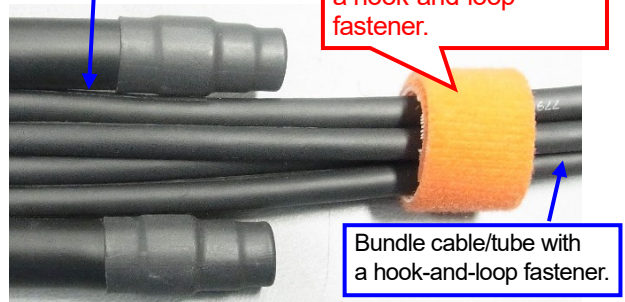

Fig. 1-2
* Fig. 1-2 shows an example of a countermeasure